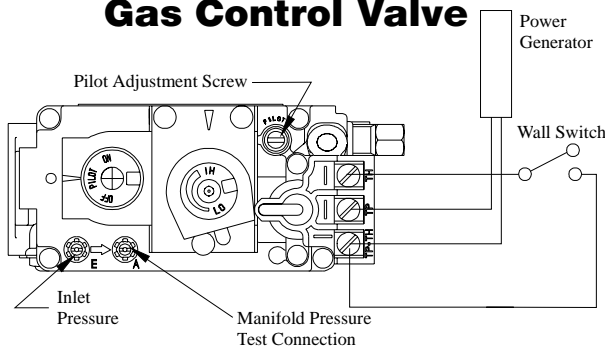

Figure 22. Sit 820 gas valve.
1. Remove Pilot Adjustment Cap. (See figure 22.)
Pilot won't ignite	Disconnect remote wires and try to light pilot. If pilot now works, remote connections are faulty. Check wiring diagram figure 22
Main burner will not light	1. Check wiring (see figure 22) 2. Check wall switch for proper connection.